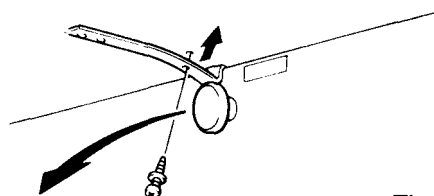

Figure 3.
- 9) While pressing on the spring, pull the knob towards you, and remove the Lower Front Board. (See Figure 3.)